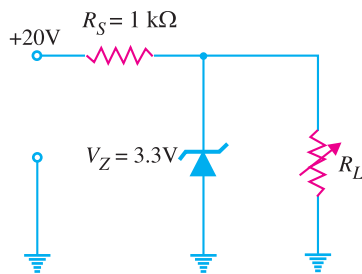

Fig. 17.32
- The zener diode in Fig. 17.32 has values of $I_{Z(min)} = 3$ mA and $I_{Z(max)} = 100$ mA. What is the minimum allowable value of R_L ? [241 Ω]